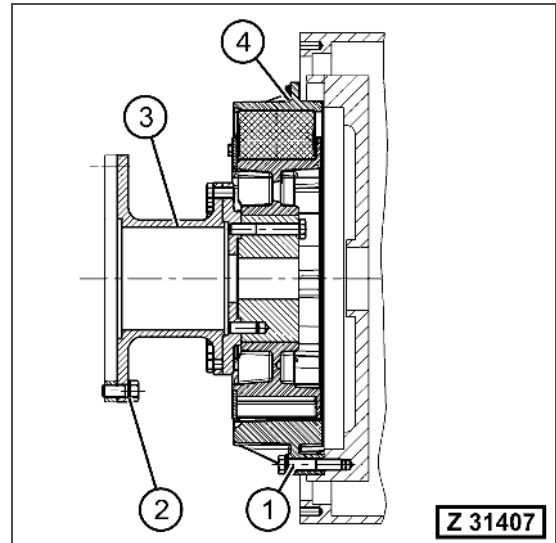

Fig. 3-123
7. Sling the coupling adapter (Fig. 3-123, Pos. 3) and attach a chain hoist.
8. Disassemble the bolts (Fig. 3-123, Pos. 1) attaching the outer part (Fig. 3-123, Pos. 4) of the coupling to the engine.
9. Disassemble the bolts (Fig. 3-123, Pos. 2) attaching the adapter to the PTO.